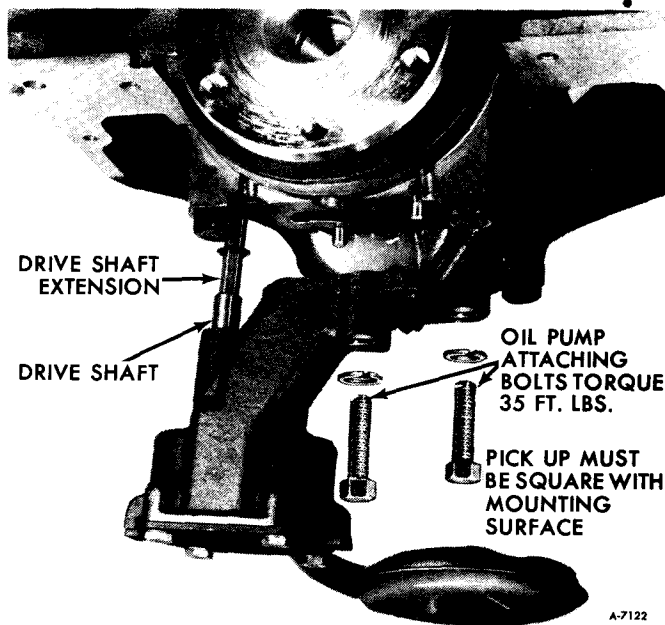

Figure 42—Oil Pump Installation
2. Position pump onto the rear main bearing cap, and install attaching bolts. Torque bolts to 35 ft. lbs. (figure 42).